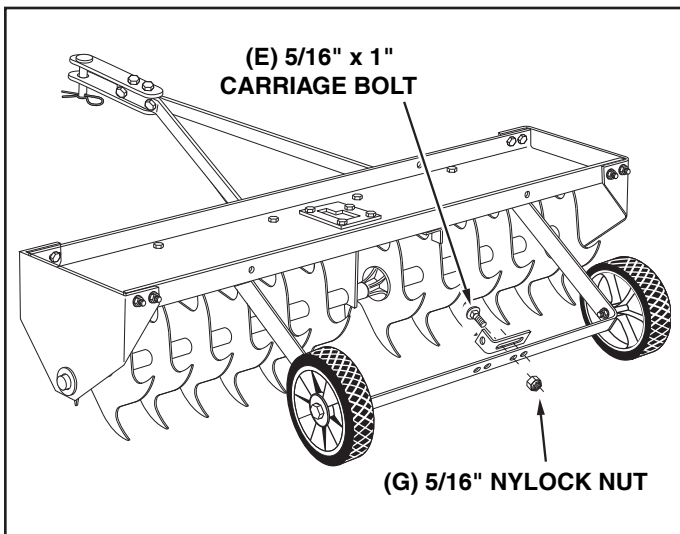

FIGURE 14
24. Assemble a hitch arm mount bracket to the axle bracket using two 5/16" x 1" carriage bolts (E) and 5/16" nylock nuts (G). **Do not tighten yet.** See figure 14.